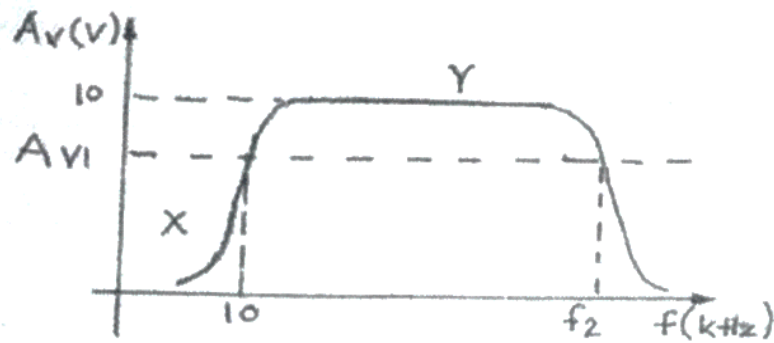

Figure 2
- (b) Figure 2 is the frequency response curve of a transistor amplifier with a bandwidth of 90 kHz.